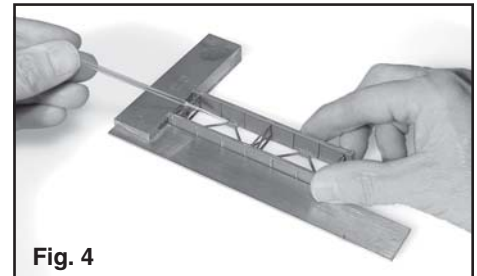

Fig. 4
c. It is important that the two girders are assembled square and as with a prototype bridge, the lateral bracing holds them square. Remove the rubber bands and place the girder assembly in a square as shown in fig. 4. Cement the lateral bracing while holding the girders against the square.